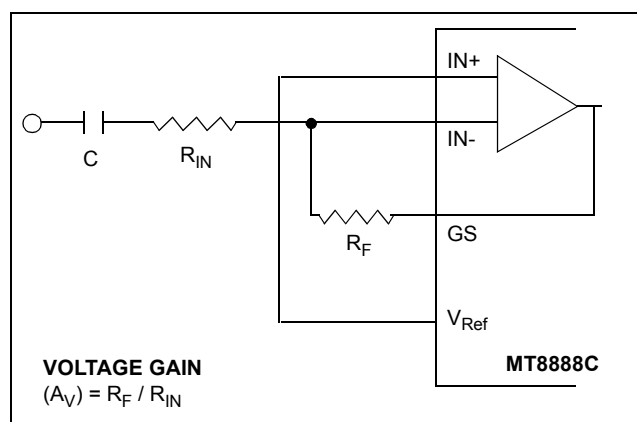

Figure 3 - Single-Ended Input Configuration
The input arrangement of the MT8888C provides a differential-input operational amplifier as well as a bias source (V_{Ref}), which is used to bias the inputs at $V_{DD}/2$. Provision is made for connection of a feedback resistor to the op-amp output (GS) for gain adjustment. In a single-ended configuration, the input pins are connected as shown in Figure 3.